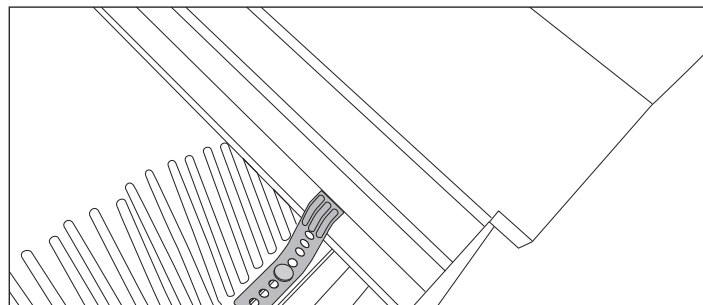

Fig. 33 – Eaves clip and comb filler
- 2 All eaves course tiles should be twice fixed; nailed and/or clipped using a purpose-made Maxima eaves clip nailed to the fascia or tilting fillet (Fig. 33).